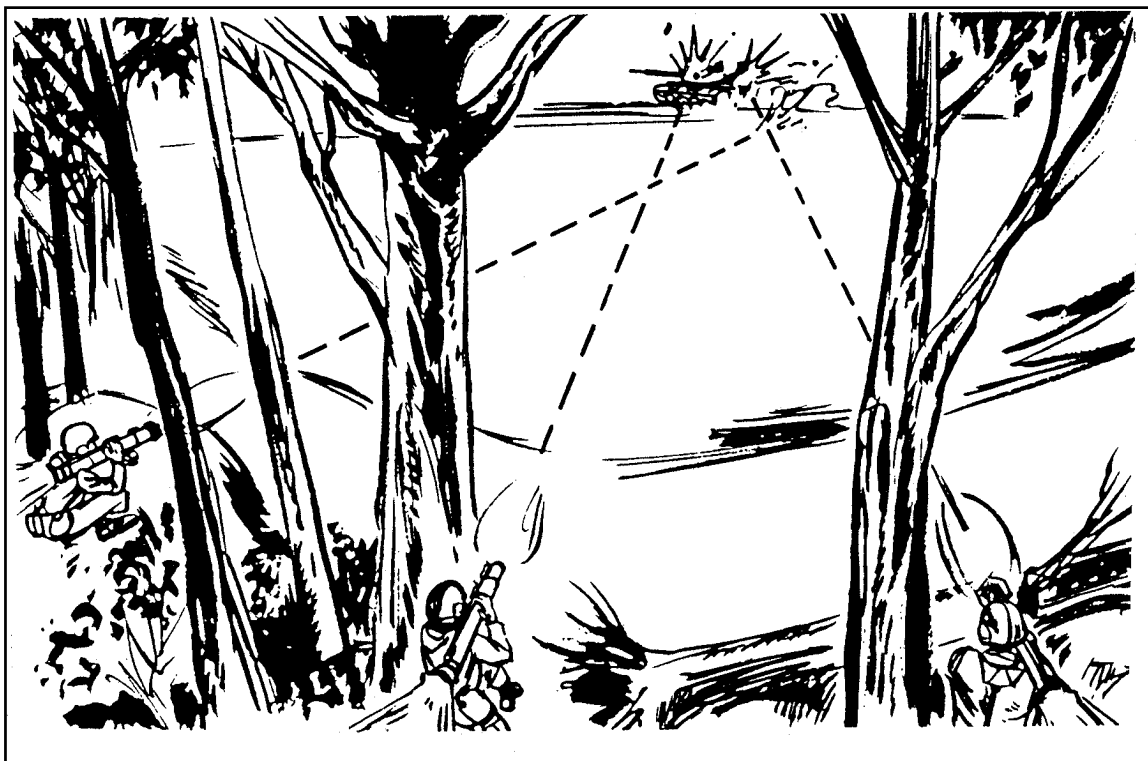

Figure 6-7. Volley firing.
d. **Volley Firing.** Two or more firers can engage a single target when the range is known. These firers engage the target at one time on a prearranged signal such as a command, whistle, booby trap, mine, or TRP. For the best method of engagement, use the light antiarmor weapon, because it places the most possible rounds on one target at one time, increasing the possibility of a kill (Figure 6-7).